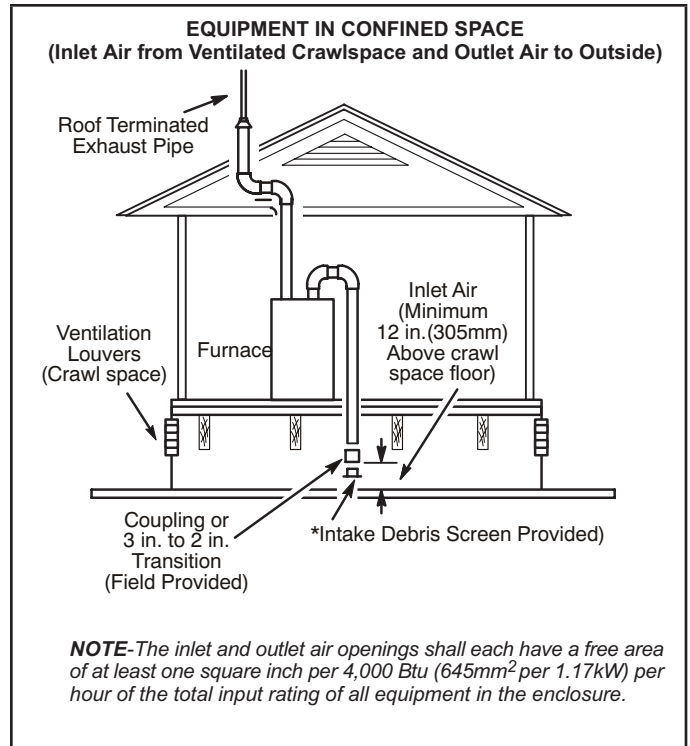

FIGURE 24
- 2 - If intake air is drawn from a ventilated crawlspace (FIGURE 24) or ventilated attic (FIGURE 25) the exhaust vent length must not exceed those listed in TABLE 9. If 3" diameter pipe is used, reduce to 2" diameter pipe to accommodate the debris screen.